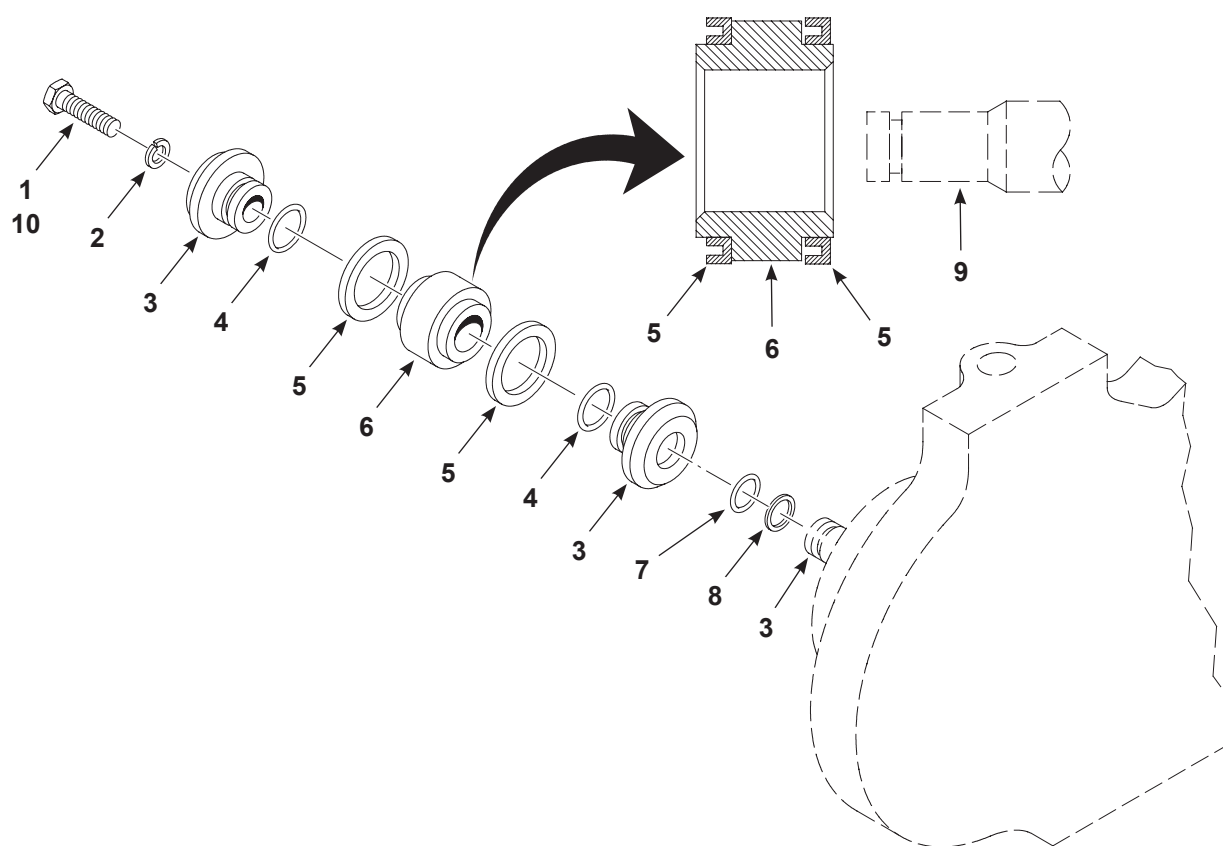

Figure 6-2 Hydraulic Packing Replacement
1. See Figure 6-2. Remove the screws (1) and lock washers (2) that secure the plunger assembly to the piston shafts (9).
2. Remove and discard the O-rings (4) from the hydraulic retainer seals (3).
3. Remove and discard the U-cups (5) from the hydraulic seal holders (6).
4. Remove the O-rings (7) and back-up rings (8) from the piston shafts. Discard the O-rings.
5. Lightly lubricate all O-rings (4, 7) and U-cups (5) with O-ring lubricant.
6. Install the back-up rings (8) and O-rings (7) to the piston shafts.
7. Install the O-rings (4) to the hydraulic retainer seals (3).
8. Install the U-cups (5) on the hydraulic seal holders (6) as illustrated.